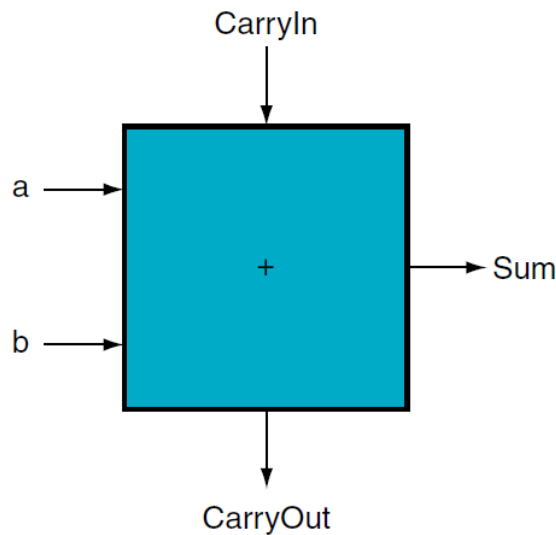

Figure 2: 1-bit Adder.
The next function to include is addition. An adder must have two inputs for the operands and a single-bit output for the sum. There must be a second output to pass on the carry, called CarryOut. Since the CarryOut from the neighbor adder must be included as an input, we need a third input. This input is called CarryIn. Figure 2 shows the inputs and the outputs of a 1-bit adder. Since we know what addition is supposed to do, we can specify the outputs of this “black box” based on its inputs, as Figure 3 demonstrates. Build this sub-circuit in Logisim-Evolution with the name “OneBitAdder”.
1. Build the one-bit adder sub-circuit (Figure 2).